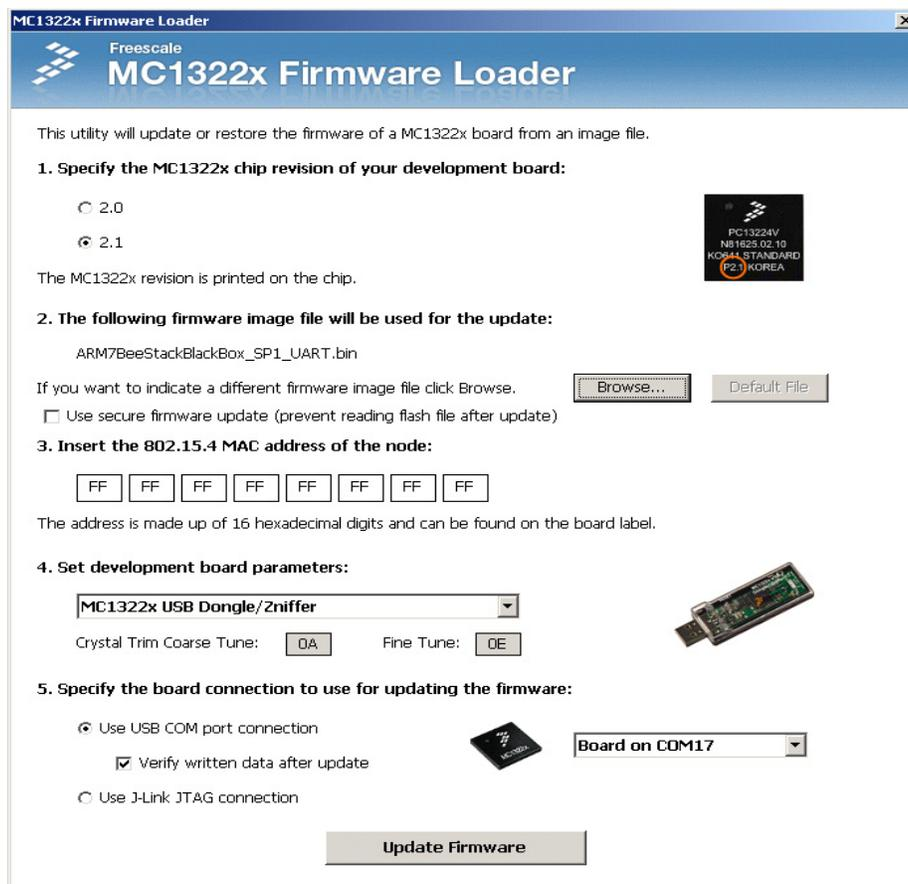

Figure 8-8. MC1322x Firmware Loader Window
1. From the Test Tool start page, click on Launch ARM7 Firmware Loader. The MC1322x Firmware Loader appears as shown in Figure 8-8.